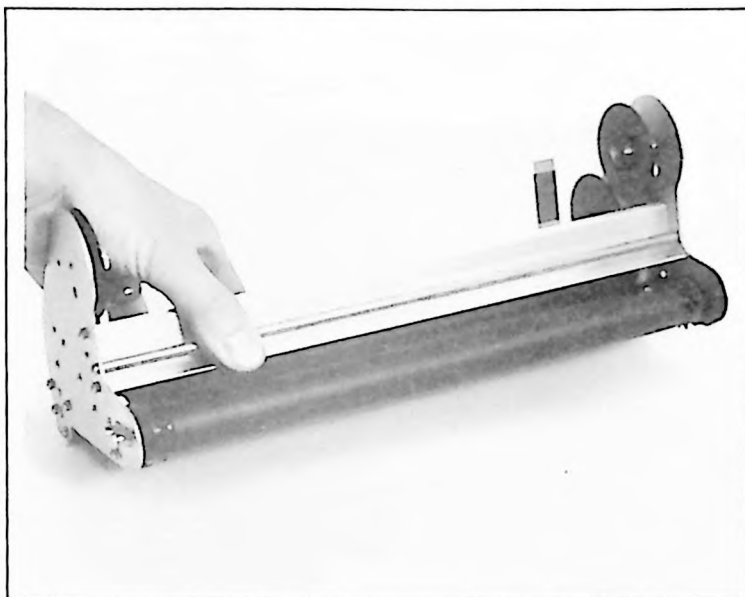

Figure 3-5. Chart Magazine — Face Down
- b. Place chart magazine face down (platen down). See Figure 3-5.